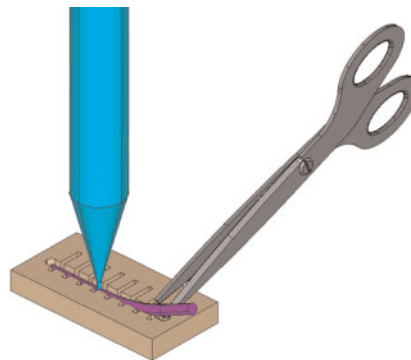

FIGURE 6 CUT THE ELASTOMER TO FIT INTO THE SLOT.
7. When the elastomer is almost completely in the elastomer slot, cut the elastomer as close to the end of the slot as possible. Do not cut the elastomer so it is too long and hangs out of the slot, FIGURE 6.